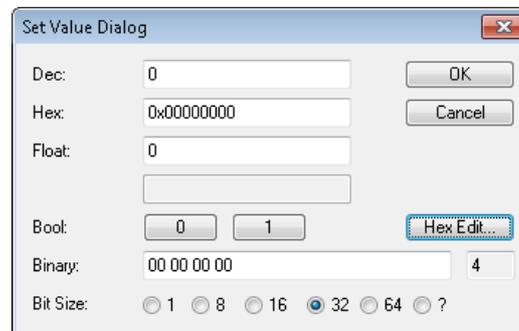

Fig. 6-35 Entering a value for saving.
4. Double click on the entry **1010:01 Initiator** to call the dialog for input (Fig. 6-35).